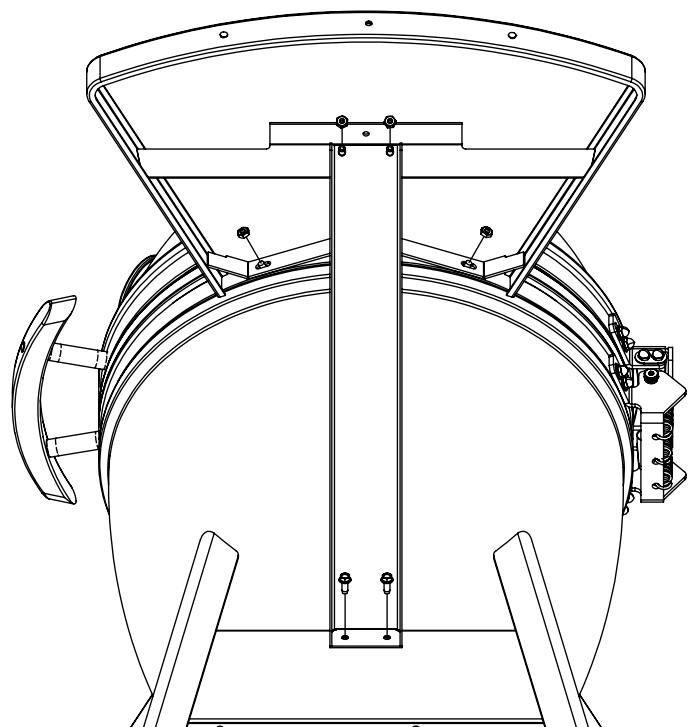

FIGURE 14: SHELF AND SUPPORT INSTALL
Step 10: Now you are ready to Install the shelves and supports. First attach the side shelves to the bottom band mounting studs using two 1/4"-20 plated hex nuts (see Figure 14). Leave the nuts loose.
Step 11: Install shelf supports as shown (Figure 14). Screws and nuts for mounting are in the hardware bag. Once the supports are connected on both sides you can tighten all fasteners. Tighten the supports to shelves last this way you can level the shelves.